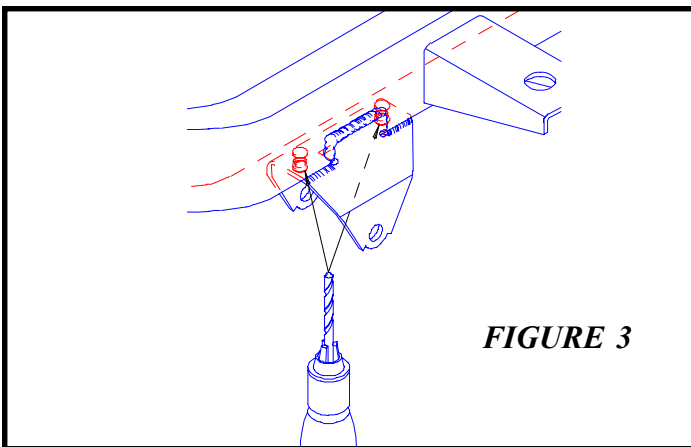

FIGURE 3
- 2.) Using a 3/8" drill bit, drill 5/16" deep into the head of the rivet as shown in **figure 3**.